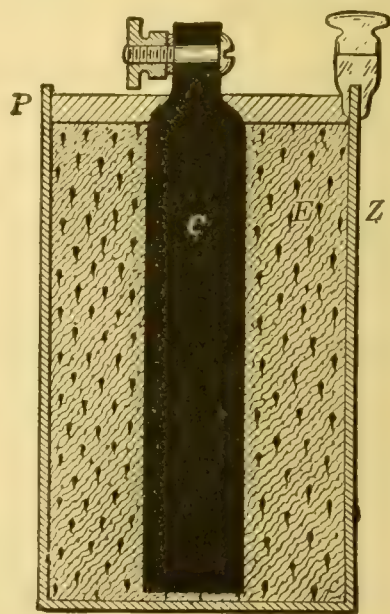

FIGURE 448. — DRY CELL
303. Dry Cells. — The dry cell, a modified form of the Leclanché cell, is used more than any other. The zinc of the dry cell (Figure 448) is in the form of a can, which serves as a container for the other parts. The zinc can (Z) is lined with absorbent paper, which is saturated with sal ammoniac solution. The carbon rod (C) is placed in the center of the cell, and the space between it and the can is filled with a mixture of manganese dioxide and granulated carbon, thoroughly wet with sal ammoniac, zinc chloride, and other chemicals. The completed cell